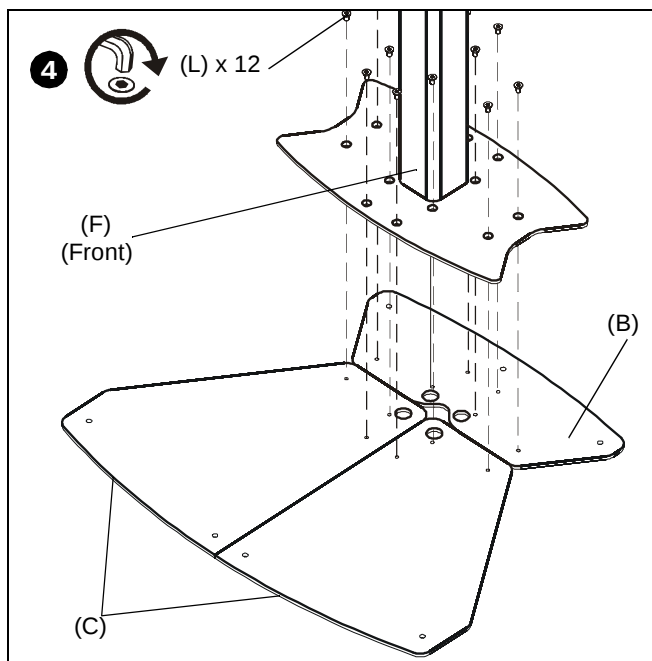

Figure 5
6. Place top base section and center post assembly on top of the three base pieces with the center post front facing base pieces (C). (See Figure 5)
7. Fasten lower base pieces (B and C) to top base section and center post assembly using twelve 5/16-18 x 1/2" flat head cap screws (L). (See Figure 5)